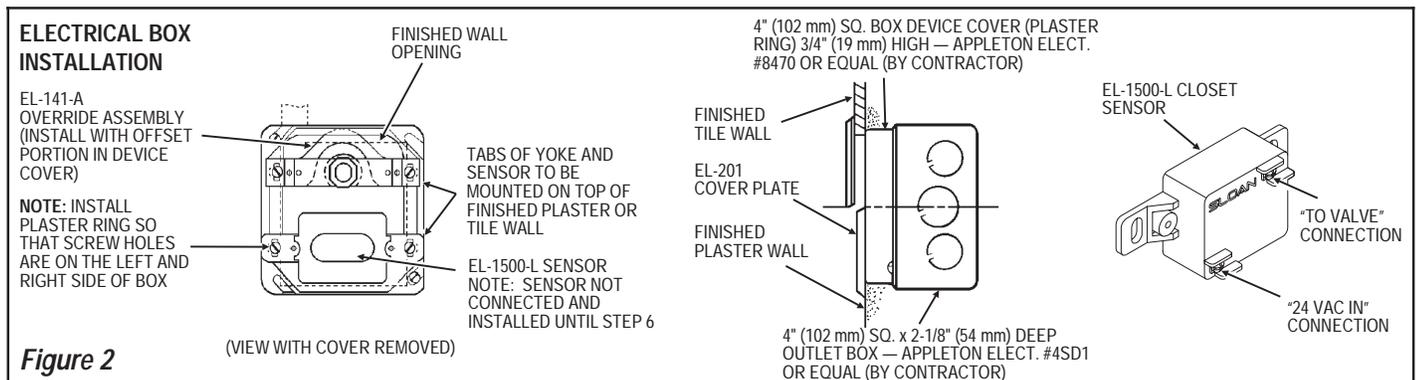

Figure 2
INSTALLATION OF THE EL-1500-L SENSOR (Figure 2)
- Connect 24 volt source lead to terminal labeled "24 VAC IN" of new Sensor shown in Figure 2.
- Connect solenoid lead to terminal labeled "TO VALVE" of new Sensor shown in Figure 2.
Step 7 — Mount OPTIMA Sensor (Figure 2)